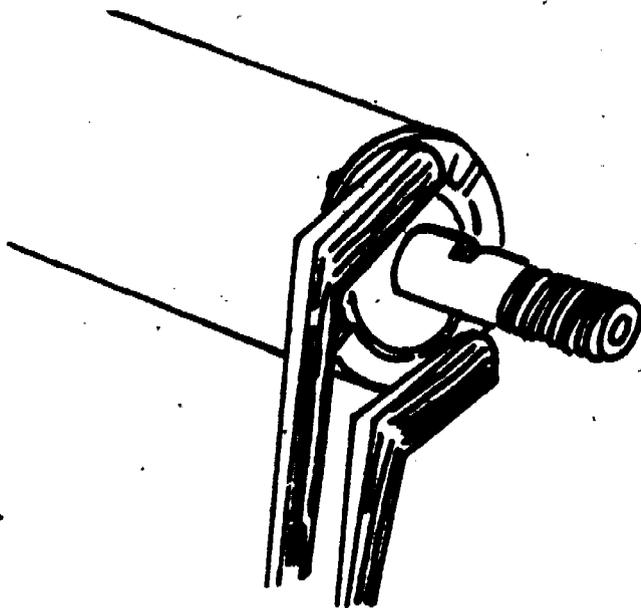

Figure 1.
STEP 2. Use a spanner wrench to loosen the cover about 1/8 of a turn (as shown in Figure 1 below). This will bend out the staked portion of the outer cylinder. The cylinder should then be tapped lightly with a mallet in the staked area in order to straighten out the threads.